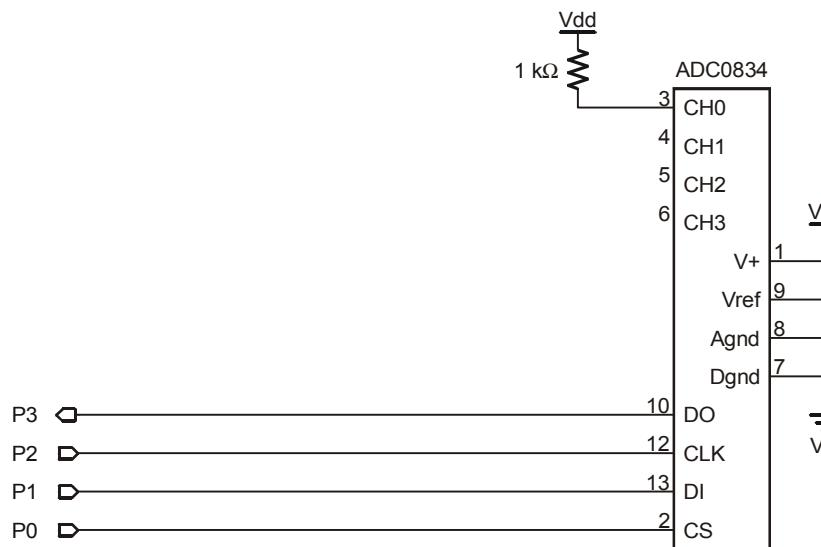
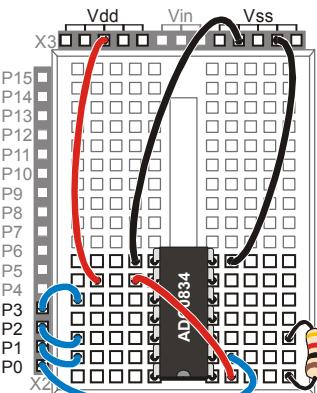

Figure 1-8
Figure 1-9
- ✓ Next, add a 1 kΩ resistor between pin 3 (CH0) and pin 1 (Vdd) of the ADC0834 as shown in Figure 1-8 and Figure 1-9. This will apply +5 VDC to the CH0 input channel.